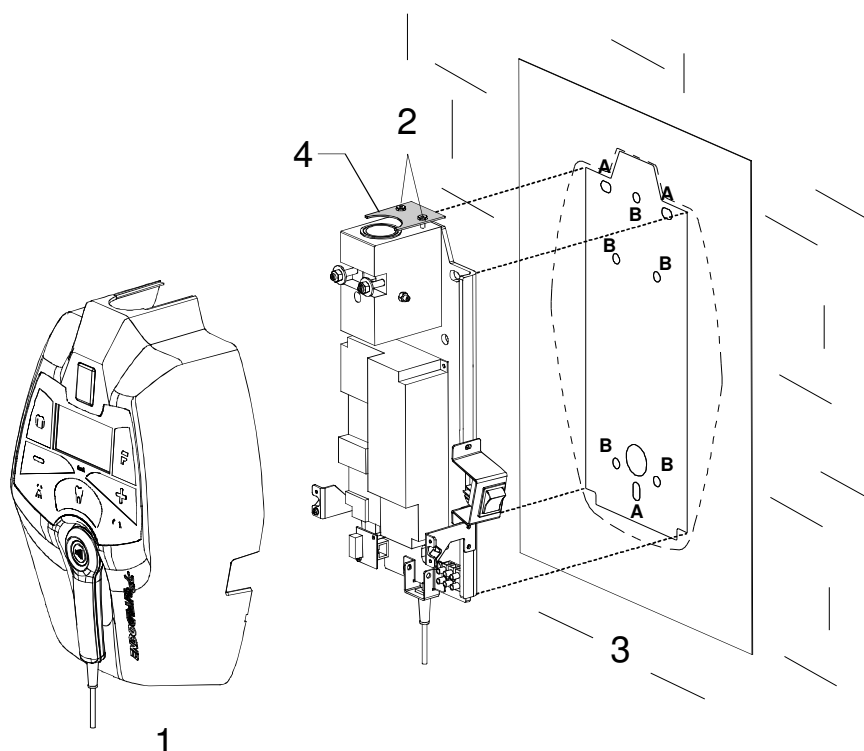

Figure 6-1
1. To be sure that the equipment is in the correct position we recommend you put the provided template code 39599100 (**3** - Figure 6-1) in the requested position, in this way identifying the requested wall-mounting position. Considering the overall dimensions of the equipment, put the top part of the template at 1450 mm from the floor.
3. Remove the plastic timer cover (**1** - Figure 6-1) loosening the two sealing screws (**2** - Figure 6-1) placed on the top part.
Do not remove completely the screws and the relevant plate (4 - Figure 6-1); with the extension arm in place, will not be possible to reassemble the plate.